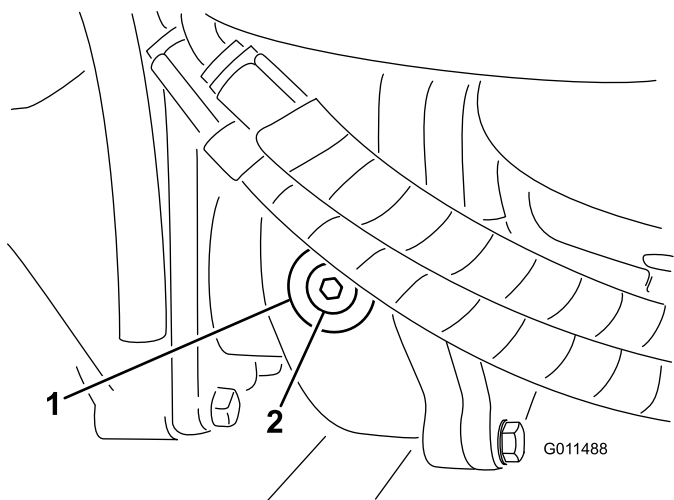

Figure 19
2. Remove the check/fill plug from the left side of the gear box and ensure that lubricant is up to the bottom of the hole (Figure 19).